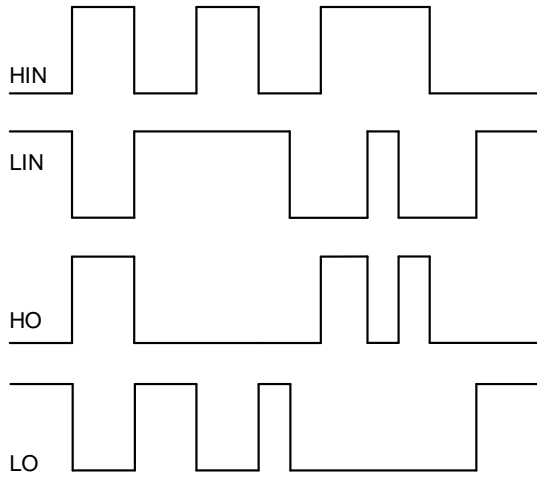

Figure 1. Input/Output Timing Diagram
**Note:** The input/output logic timing diagram is shown in Figure 1. For proper operation the device should be used within the recommended conditions. The VS offset rating is tested with all supplies biased at a 15 V differential.
Page 1	Removed "Fig 1. "